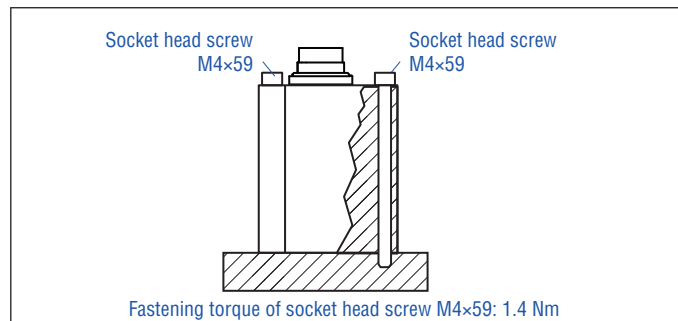

Fig. 20: Mounting with socket head screws M4x59
- Mount the sensor electronics housing by means of 3 non-magnetic socket head screws M4x59. Fastening torque: 1.4 Nm (Fig. 20). Secure the screws, e.g. using Loctite 243, before re-installing.